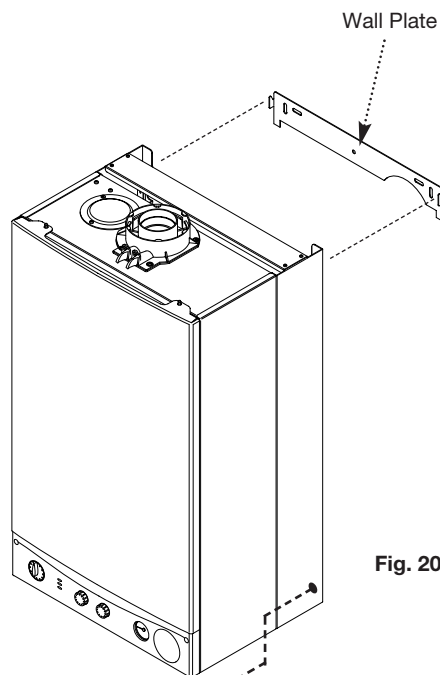

Fig. 20
1. Lift the boiler using the lower edges. Engage the slots at the top rear of the boiler on the wall plate hooks (Fig. 20).